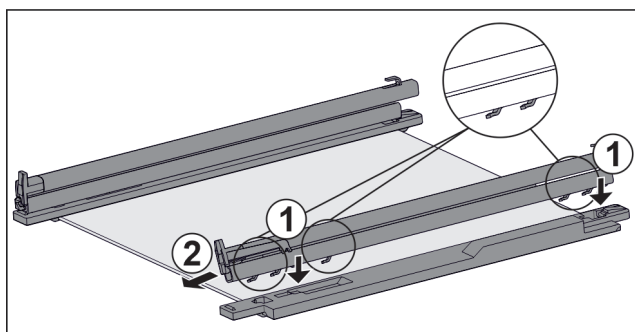

Fig. 121 Glass shelf with rails and retaining parts
- ▶ Place rail hooks onto the openings of the **left** retaining part. Fig. 121 (1)
- ▶ Push rail forwards. Fig. 121 (2)
- ▶ Place rail hooks onto the openings of the **right** retaining part. Fig. 121 (1)